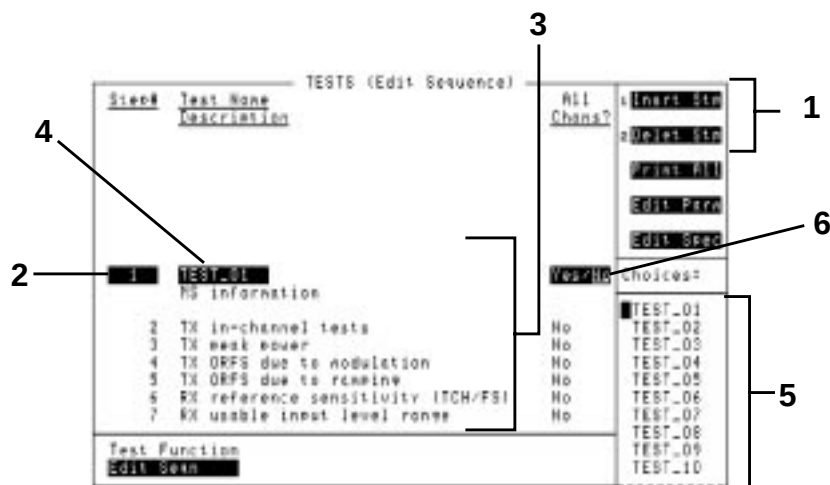

Figure 8-14
- 1 Select the Edit Seqn field. A test-sequence screen similar to that shown in Figure 8-14 on page 8-33 appears.
- 2 Select the Insrt Stp field or Delet Stp field as needed to insert or delete tests on the screen. Refer to item (1) in Figure 8-14 on page 8-33.
- 4 Select the **Test Name** field and turn the knob to select the desired test. Refer to item (4) in Figure 8-14 on page 8-33. (As you turn the knob, the test name and description changes along with the test number shown in the **Choices** menu.